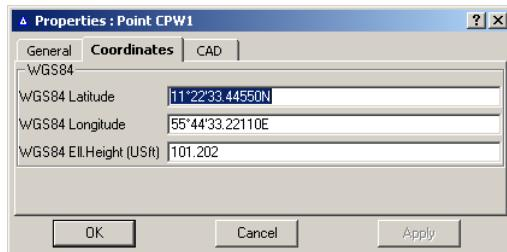

Figure 5-8. Point Properties – Coordinate Tab
4. On the **Properties** dialog box, click the *Coordinates* tab (Figure 5-8).